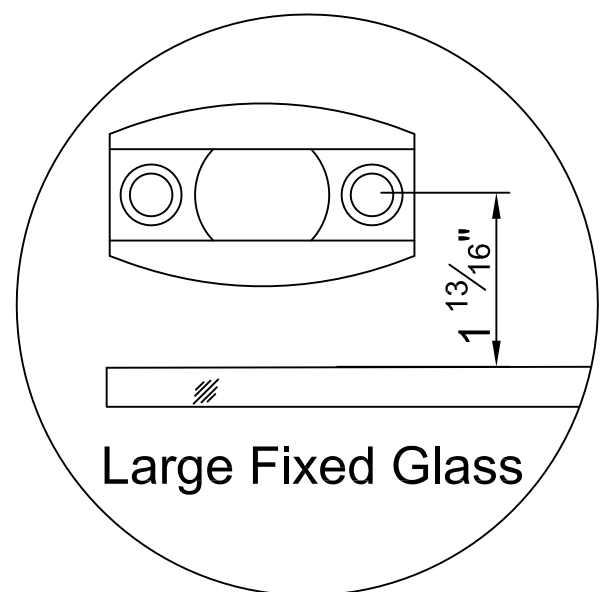

Fig. 29
29. Position the Sliding Door Track Divider (8) into position as seen in Fig.29 and mark the 2 shower base hole positions.
**Note:** In Fig.29 the hole locations for attaching sliding door track divider should be  $1 \frac{13}{16}$ " from edge of Large Fixed Glass (3).
See Fig.29 for details.